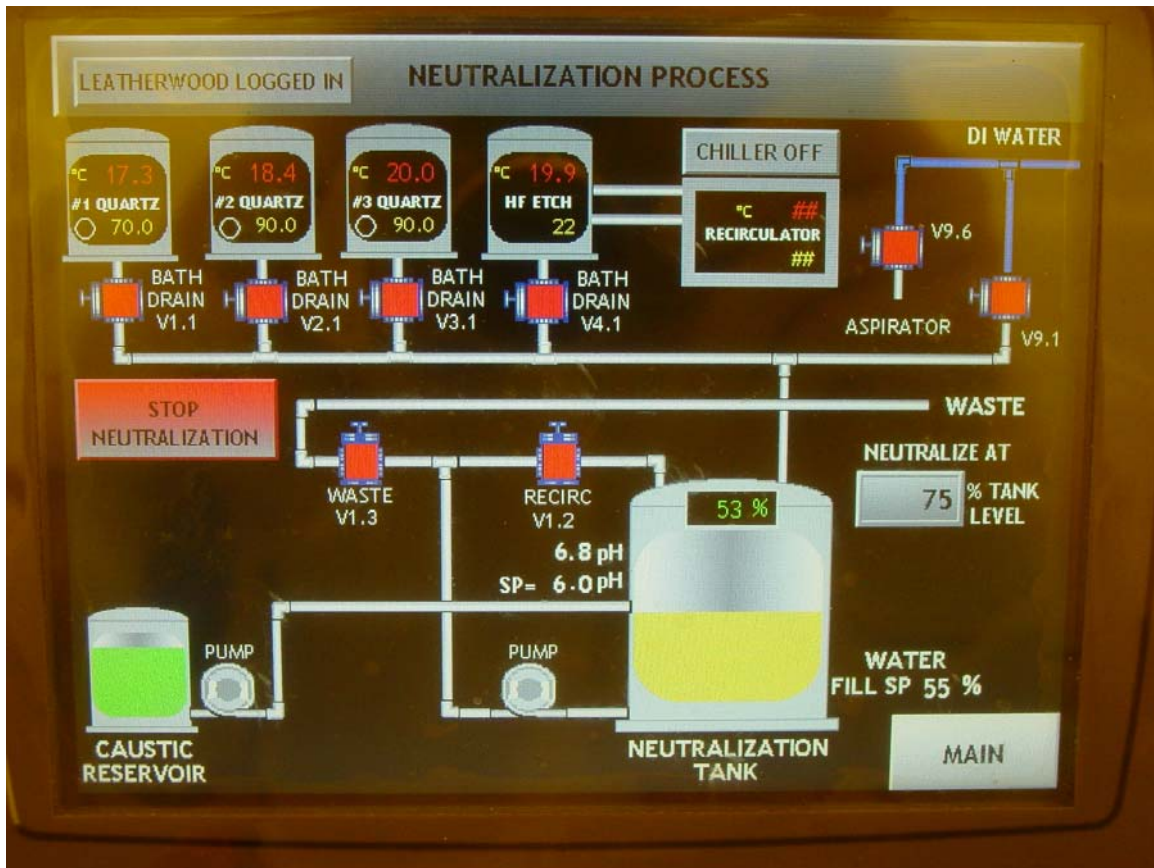

Figure A1. Active Neutralization screen. Note the red “STOP NEUTRALIZATION” button at the center left – this must be present to enable neutralization.
3. Familiarize yourself with the plumbing diagram as displayed on the screen, Figure A1.